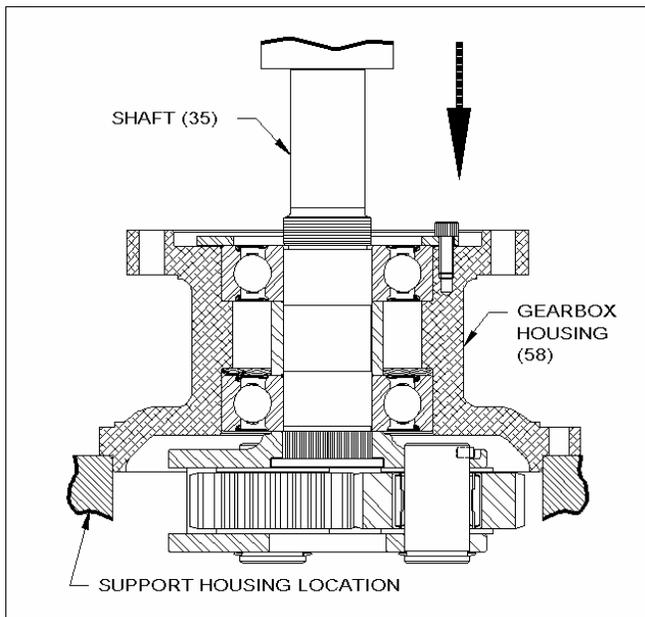

Figure 12. Pressing Out Carrier Shaft
In most cases the gearbox housing (58, D-44) can be removed from the carrier shaft (35) by holding shaft down and pulling directly up on housing. If this is not the case, press carrier shaft from housing per *Figure 12*.